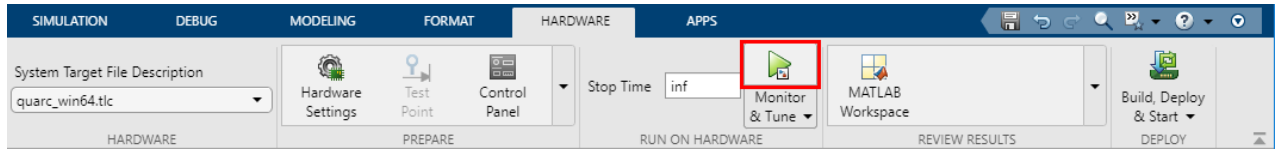

Figure 13: One step process for code generation, code deploy and Run Simulink (QUARC+QCAR) Model in External Mode
- a. To build, download, connect, and start the model for real-time external operation, click the Monitor Tune button on the HARDWARE tab (see Fig.13)